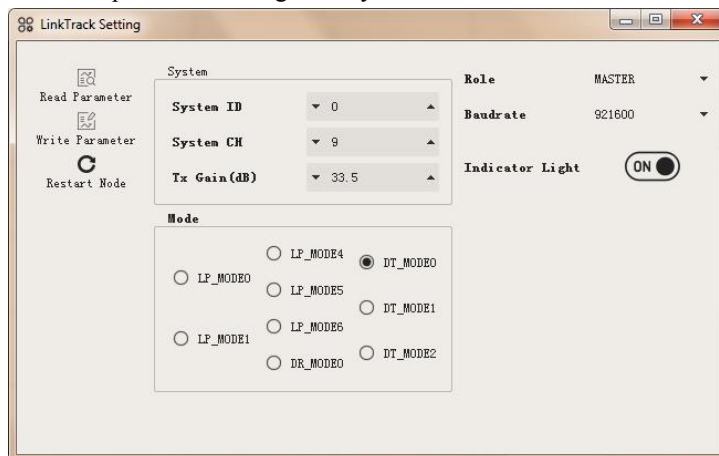
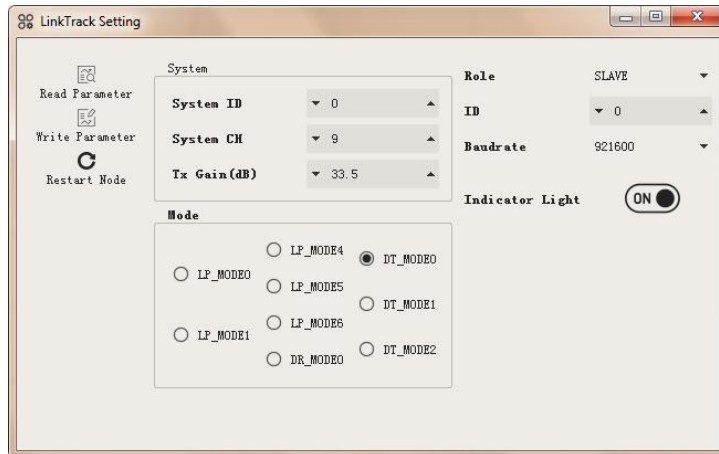

Fig. 12: M Setting diagram under DT_MODE0
Fig. 13: S0 Setting diagram under DT_MODE0
1. **【Configure the System】** Prepare 5 LT nodes, and configure one node as one MASTER through NAssistant, which is abbreviated as M; Configure another 4 nodes to be slaves with ids S0 to S3. Fig. 12 shows the Setting of M, Fig. 13 shows the Setting of S0, other SLAVE ID needs to correspond, and other parameters are generally the same as S0.
The related Setting parameters of DT_MODE1 are basically the same as DT_MODE0, please refer to Fig. 12 and Fig. 13.
The related Setting parameters of DT_MODE2 are basically the same as DT_MODE0, please refer to Fig. 12 and Fig. 13.